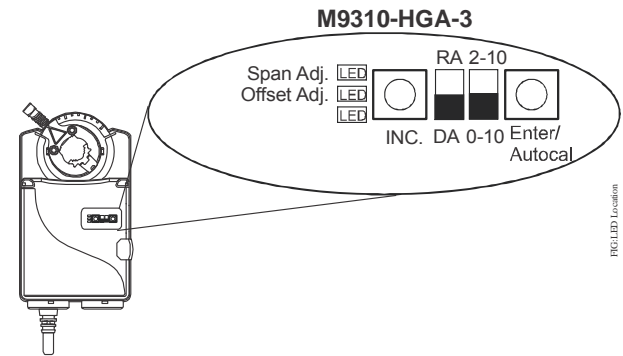

Figure 20: DIP Switches and LEDs Placement
**IMPORTANT:** When using the M9310-HGA-3 actuator in floating mode, verify that the DIP switch is positioned on the 2 to 10 VDC option. This setting ensures compatibility with the controller's triac output exhibiting voltage leakage. See Figure 20 for DIP switch placement.
To complete the auto calibration process, press **Enter/Autocal** until all three LEDs are on. See Figure 20 for viewing the DIP switches and LEDs.
- Set DIP switch one and two before proceeding. Refer to Figure 20 for DIP switch placement.